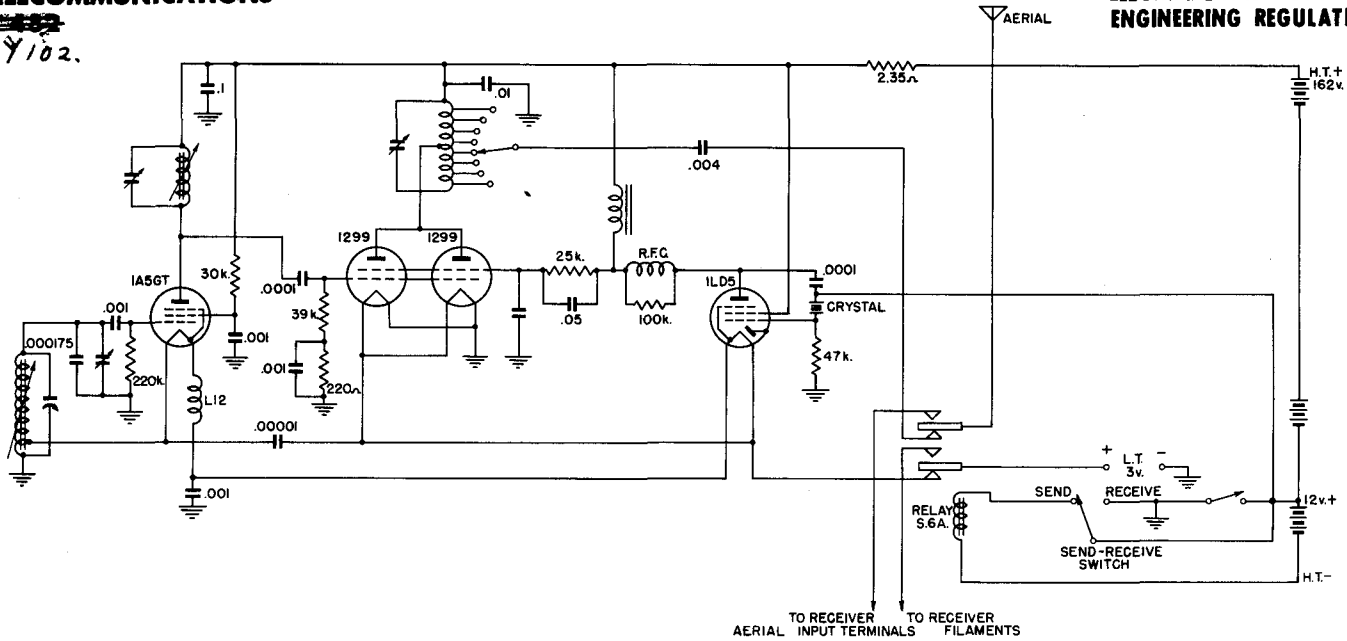

Fig. 3—Skeleton Diagram of Circuit Connections with Function Switch at C.W. Position
C.W. position of the function switch (Fig. 3)
17. In the C.W. position the circuit connections are shown in skeleton form in fig. 3. The oscillator tuned circuit is coupled between the signal grid and filament (cathode) of V4B (1A5GT). The amplified oscillatory voltage in the anode circuit is fed to the grids of V5A and V5B. (Two valves are connected direct to the H.T. line, thus short-circuiting the audio frequency modulator stage (fig. 1, Switch S5A, Section 3, contact 1). The oscillatory power in the anode circuit of the P.A. is applied to the aerial through the aerial switch, the blocking condenser, .004 μ F, and the make contact of relay S6A.